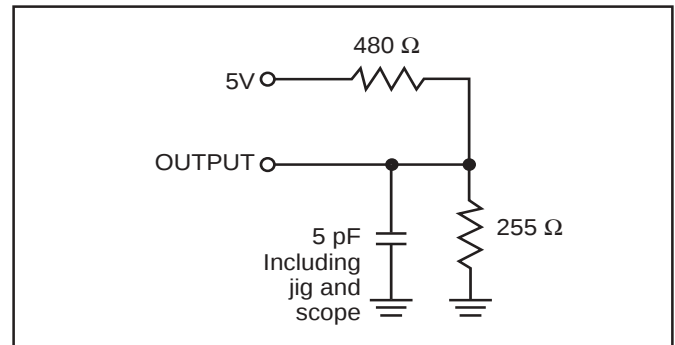

Figure 2
2. Tested with the load in Figure 2. Transition is measured ± 500 mV from steady-state voltage. Not 100% tested.
4. Tested with the load in Figure 2. Transition is measured ± 500 mV from steady-state voltage. Not 100% tested.